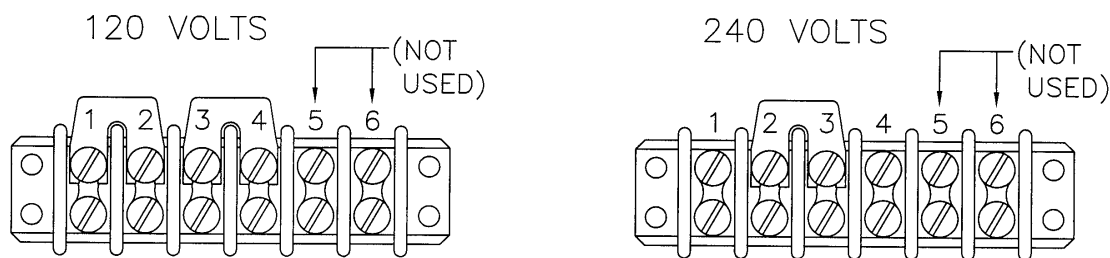

Fig. 9.1A A.C. Voltage Selector Blocks
3. Locate the Terminal Block with Jumpers (one Terminal Block per phase) and the label describing the various voltage/jumper configurations. (Refer to Fig. 9.1A, B or C). The Terminal Block with Jumpers is located on the Ferroresonant Transformer.